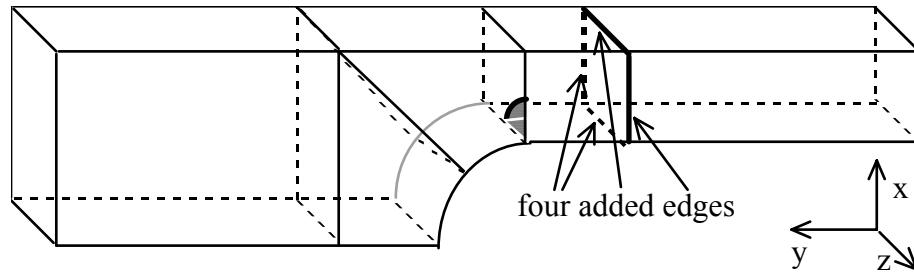

Figure 3.14. Subdivided non-crack faces.
Step 6: Continue adding lines in a similar manner to the other three faces (Figure 3.14). The coordinates of the other two points that must be added are 1, 3.5, -1 and 0, 3.5, -1.